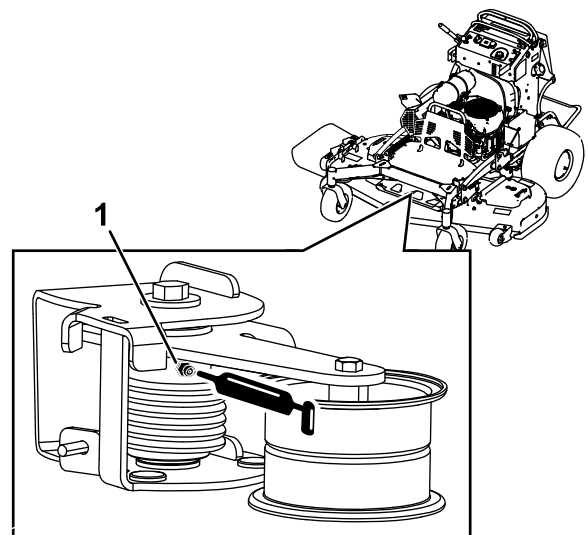

Figure 39
2. Grease the torsion idler on the mower deck using high-temperature grease at the grease fitting shown in Figure 39.